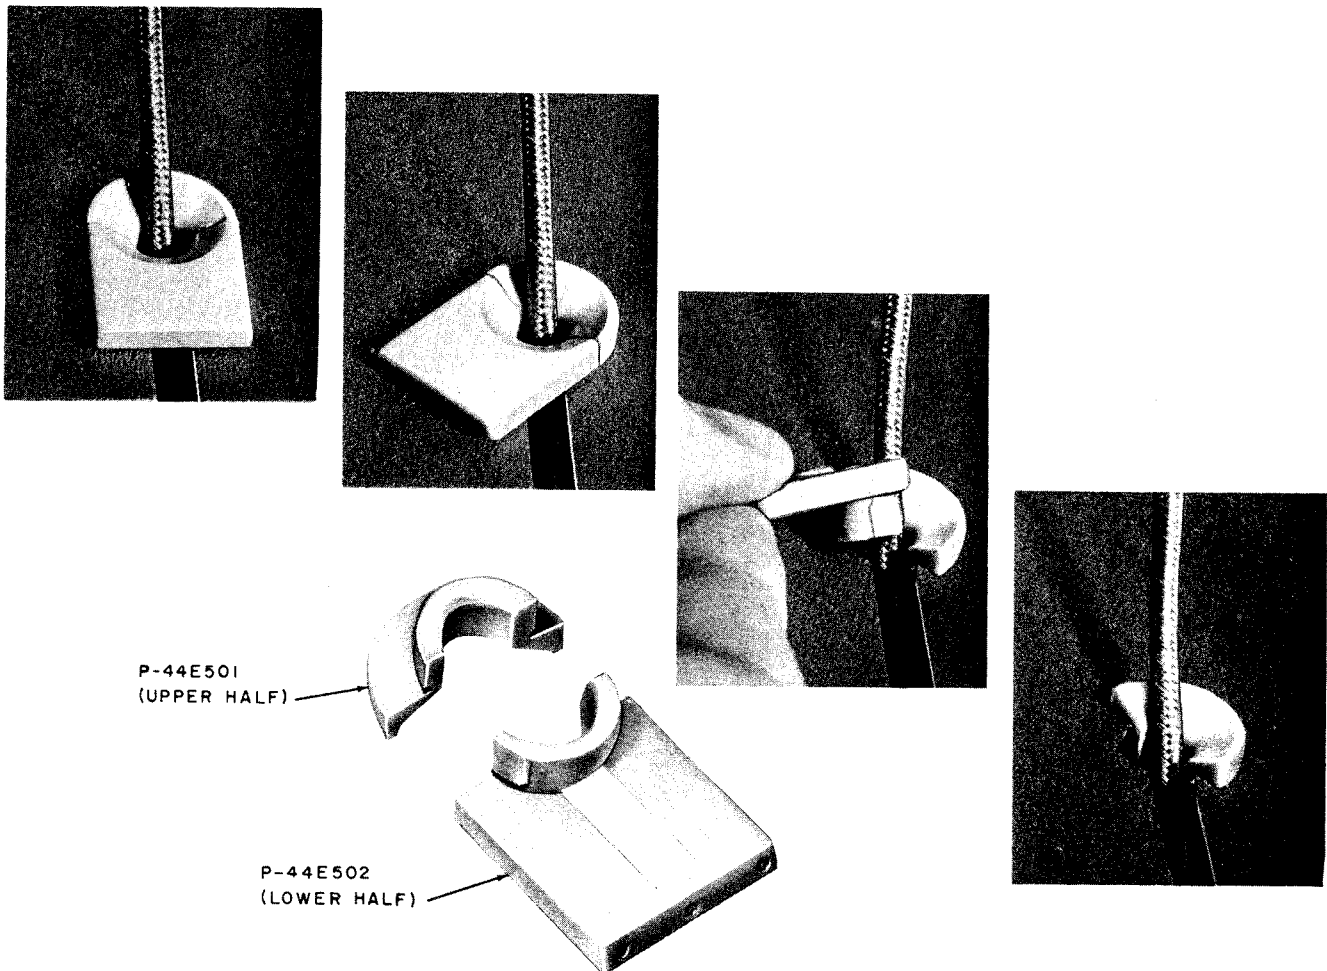

Fig. 11—Removal of Handset Cord Grommet
- Remove grommet from mat as shown in Fig. 11.